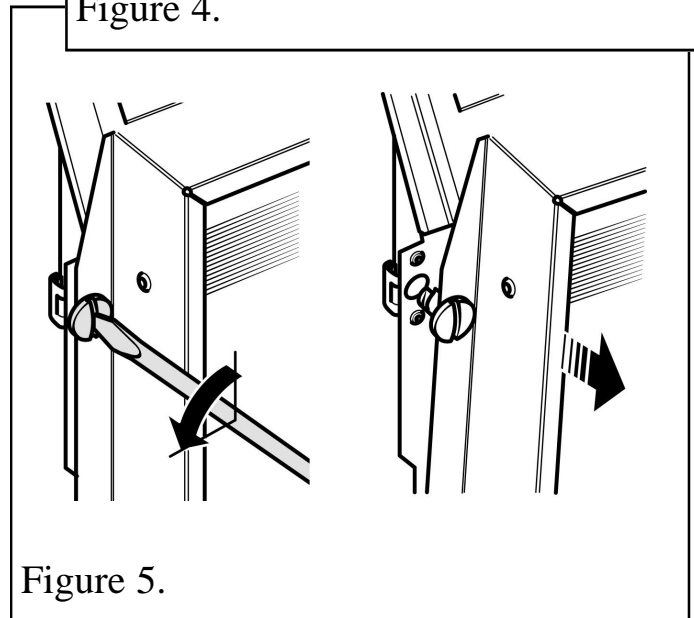

Figure 5.
2. Remove the window unit by turning the screws each side of the window frame $\frac{1}{4}$ turn anticlockwise. The flattened end of the smoke match tube can act as a screwdriver. This should have been left in the information pack by the installer. Lift the window unit clear (See figure 5).